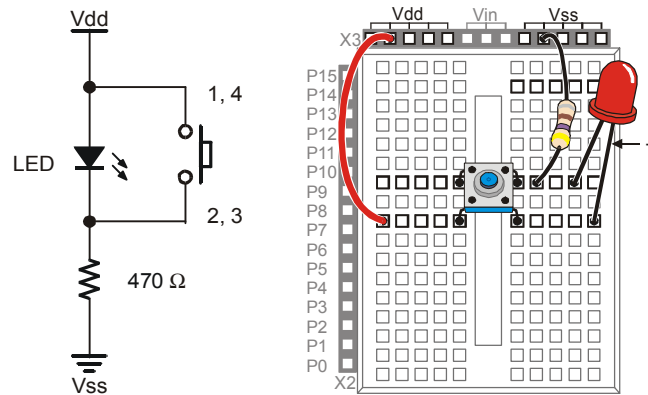

Figure 3-5
Figure 3-5 shows a different circuit that will cause the LED to behave differently. When the button is not pressed, the LED stays on. When the button is pressed, the LED turns off. The reason the LED turns off when the pushbutton is pressed is because current always follows the path of least resistance. When the pushbutton is pressed, terminals 1,4 and 2,3, have almost no resistance between them, so all the current passes through the pushbutton (short circuit) instead of the LED.
- √ Build the circuit shown in Figure 3-5.